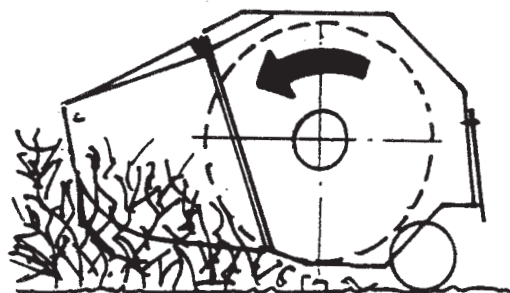

Fig. 29
- To cut bushes, sticks and branches, the rotational direction is as shown in FIG. 29.